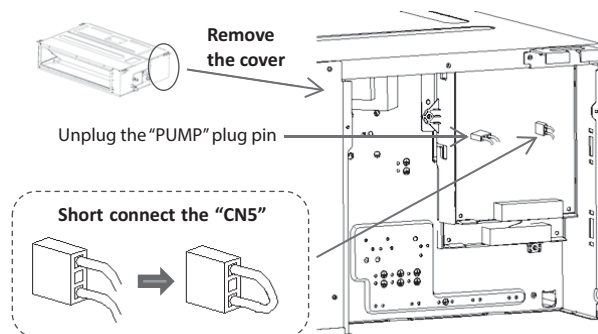

Fig. 22 — Unplug the PUMP Pin
- Open the E-Parts Box assembly cover, unplug the "PUMP" pin to disable the pump function, and short connect the "CN5" plug to disable the water level sensor (see Figures 22 and 23).